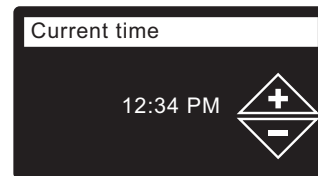

FIG. 25
- CURRENT TIME** Press the DOWN (▼) or UP (▲) buttons to set the current time (See Figure 25). Hold the button down to rapidly advance. Be sure that AM or PM is correct. If the system units were set to metric in Step 17, the clock will be in 24-hour format.
- Press the SELECT (O) button.